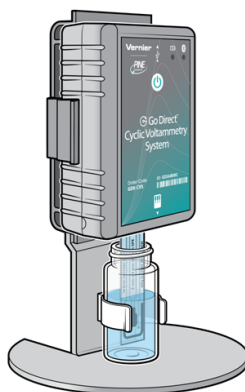

Figure 3
5. Fill the scintillation vial about halfway full (~10 mL) with your solution. Insert the scintillation vial into the clip on the stand. Carefully guide the Cyclic Voltammetry System with SPE attached downward into the vial and snap the instrument into place, as shown in Figure 3.